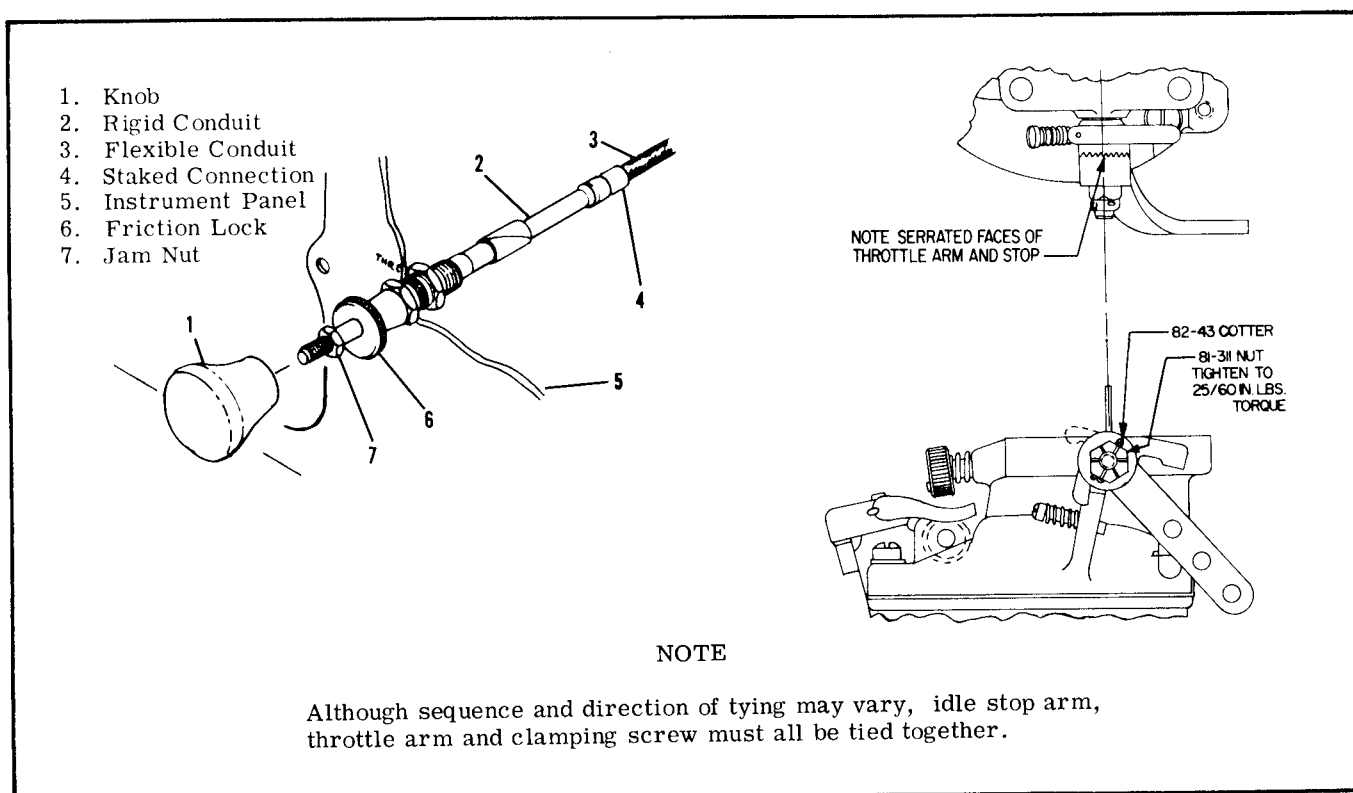

Figure 11-3. Throttle Control
Before rigging throttle control shown in figure 11-3, check that staked connection (4)